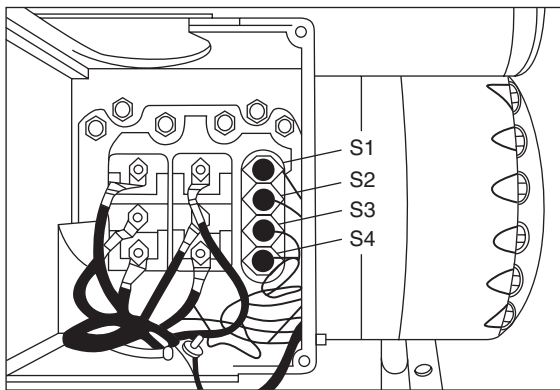

Fig. 3-48 Compressor terminal board. (Robertshaw)
Leads from the internal motor sensors are connected to the compressor terminals as shown in Fig. 3-48. Leads from the compressor terminals to the control module are connected as shown in Fig. 3-49. Figure 3-49A shows the older model and Fig. 3-49B the newer model. While the exact internal circuitry is quite complicated, basically the modules sense resistance change through the sensors as the result of motor-temperature changes in the motor windings. This resistance change triggers the action of the control circuit relay at predetermined opening and closing settings, which causes the line voltage circuit to the compressor to be broken and completed, respectively.
- Remove the wiring connections from the sensor and common terminals on the compressor board. See Figs. 3-48 and 3-49.
In the unlikely event that one sensor is damaged and has an open circuit, the control module will prevent compressor operation even though the motor may be in perfect condition. If such a situation should be encountered in the field, as an *emergency* means of operating the compressor until such time as a replacement can be made, a properly sized resistor can be added between the terminal of the open sensor and the common sensor terminal in the compressor terminal box. See Figs. 3-48 and 3-50. This, then, indicates to the control module an acceptable resistance in the damaged sensor circuit, and compressor operation can be restored. The emergency resistor should be a 2 W, 82- Ω , wire wound with a tolerance of ± 5 percent.